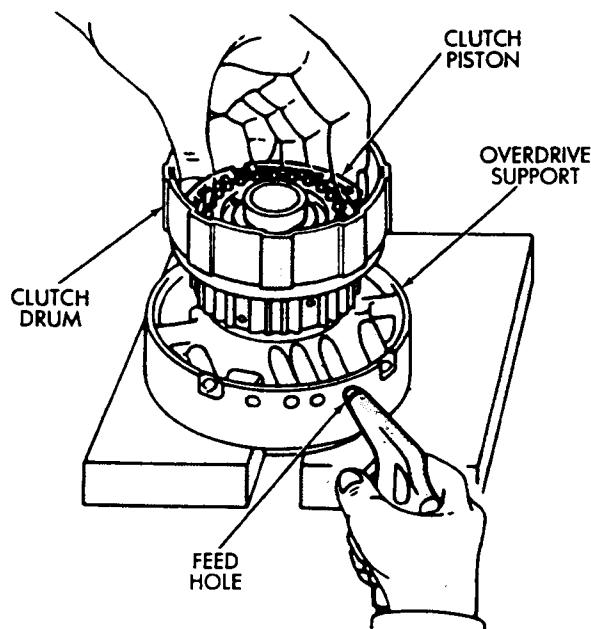
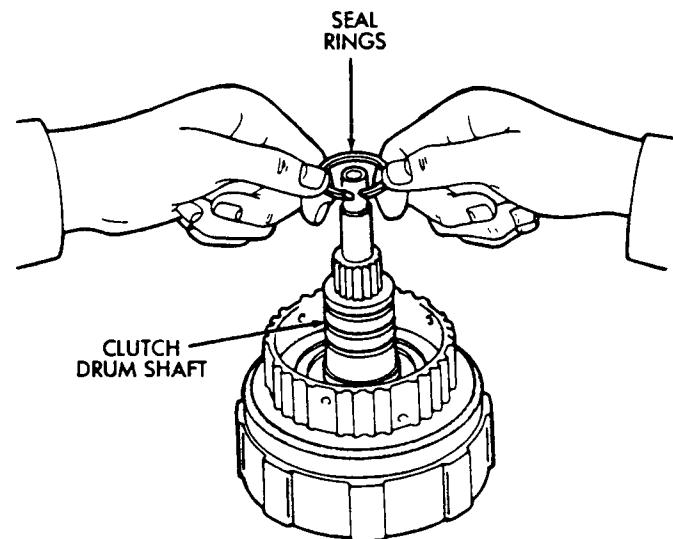

Fig. 6 Removing Forward Clutch Piston
Fig. 8 Removing Clutch Drum Seal Rings
(12) Remount forward clutch drum on overdrive support (Fig. 6).
(13) Apply compressed air through feed hole in support to remove piston (Fig. 6). Use only enough air pressure to ease piston out of drum.
(14) Remove and discard clutch piston O-rings.
(15) Remove clutch drum O-ring from rear hub (16) of the drum.
(16) Remove three seal rings from clutch drum shaft (Fig. 8).